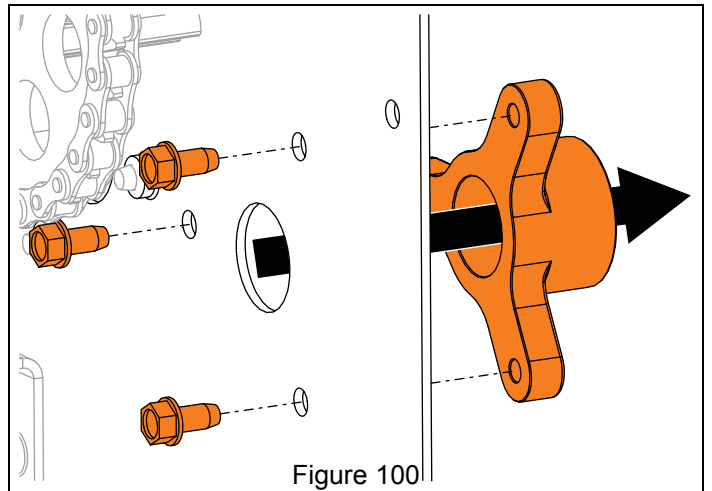

Figure 100
9. Remove hardware securing axle bushing to frame and remove bushing. See Figure 100.